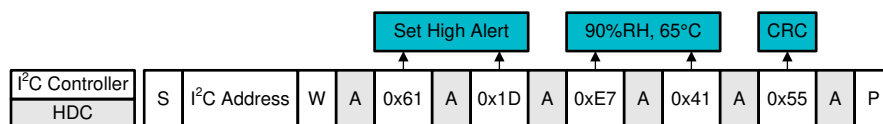

Figure 7-27. I²C Command Sequence: Example Programming of Set High Alert to 90% RH, 65°C
- a. Figure 7-27 illustrates the appropriate command to send to the HDC302x.